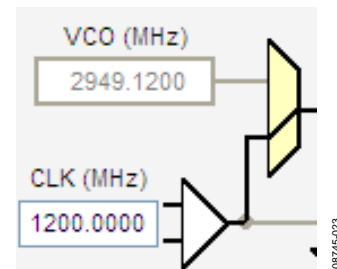

Figure 6. Buffer Symbol
5. Select the VCO as the input to the clock distribution circuitry by clicking the mux symbol that is located immediately to the right of the VCO (MHz) box (see Figure 6).